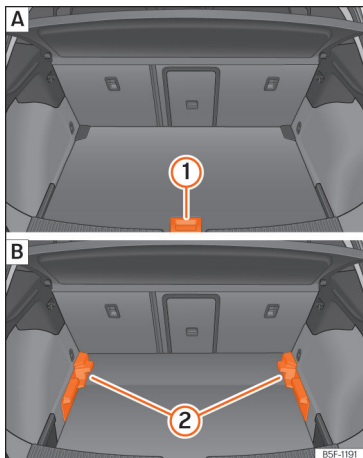

Fig. 182 Variable luggage compartment floor:
- To move from the low position to the high position, lift the floor using the handle »» Fig. 182 ①, and pull it back until the front of the floor has fully passed the supports ②.
- Move the floor forward over the supports as far as the rear seat backrest and then lower the floor with the handle ①.
- To move from the high position to the low position, lift the floor using the handle »» Fig. 182 ①, and pull it back until the front of the floor has fully passed the supports ②.
- Now let the front part fall to the floor and slide the floor forwards as far as the rear seat backrest; lower the floor at the same time with the handle ①.
- Lift the variable floor in the high position using handle »» Fig. 182 ①, pull it up and push it towards the backrest of the rear seats until it folds along the hinge line and the movable part of the floor is resting on itself.